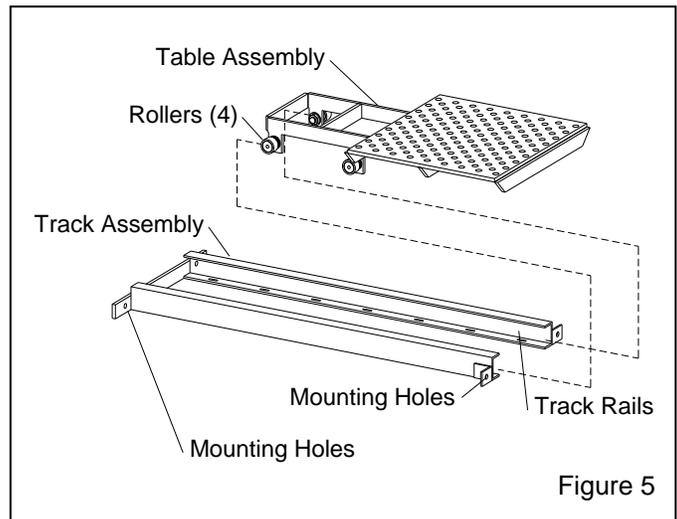

Figure 5
3.3.2 Combine the table assembly and track by sliding the table assembly rollers into the track channels, as shown in Figure 5.